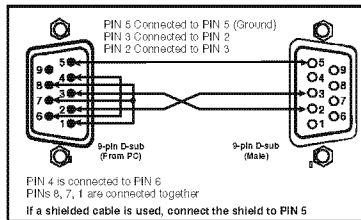

Figure 4: Connecting a PC without using a Null-modem Adapter
- Connect the RS-232 9-pin D-sub port on your PC to the RS-232 9-pin D-sub rear panel port on the Master **VP-8x4** unit, as Figure 4 illustrates